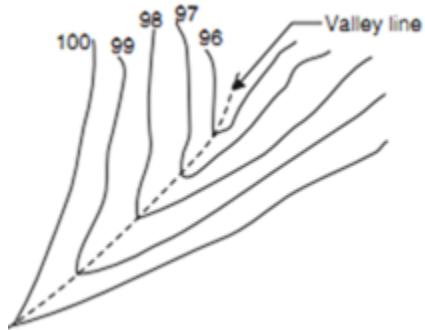

Fig. 3
9. Contour lines with V-shaped with convexity towards higher ground indicate valley (Fig.3).